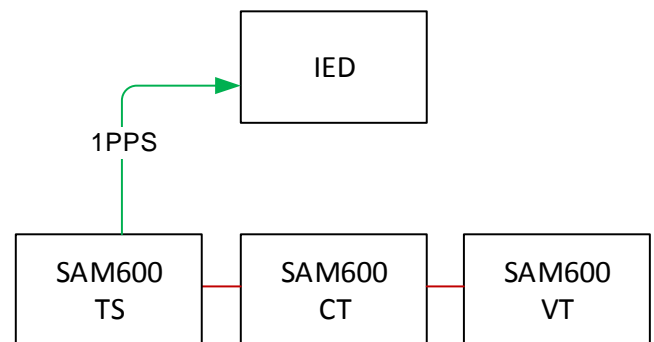

Figure 4. SAM600 free-running
- **Free-running** – A SAM600 system can operate in a free-running mode (see Figure 4) with no external time synchronization. The SAM600 system itself synchronizes internally by means of IEEE 1588 in order to ensure synchronous sampling of the analog data.